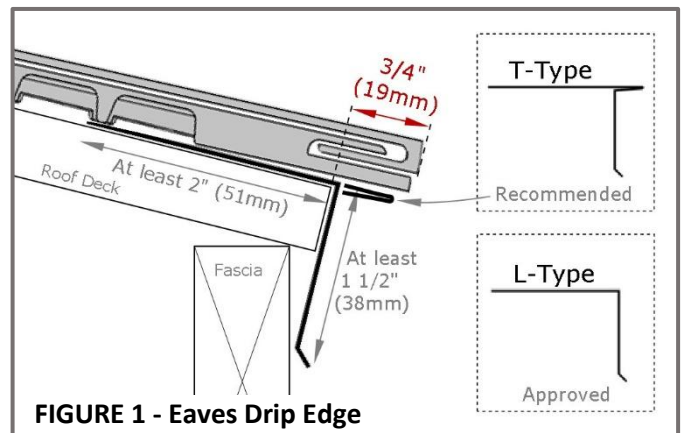

FIGURE 1 - Eaves Drip Edge
- **EAVES** - Install L-Type or T-Type drip edge. Drip edge must extend a minimum of **2" (51mm)** back from the roof edge, bend downwards over the fascia at least **1 1/2" (38mm)**, and kick out to direct water away from the fascia board. See **Figure 1**. F-WAVE recommends T-Type drip edge extending out from the eaves **1/2" (13mm)**. Apply underlayment over drip edge metal at eaves.
- Install either a T-Type or an L-Type drip edge at the eaves. Starter must overhang the eaves edge by **3/4" (19mm)**. See **Figure 1**.